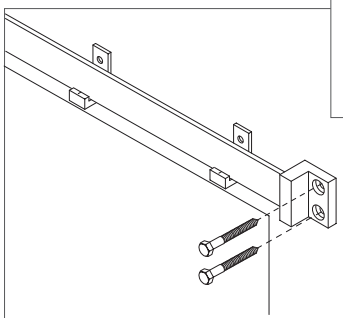

Figure 10
12. Install the end bracket using two lag screws (provided) (Figure 10).